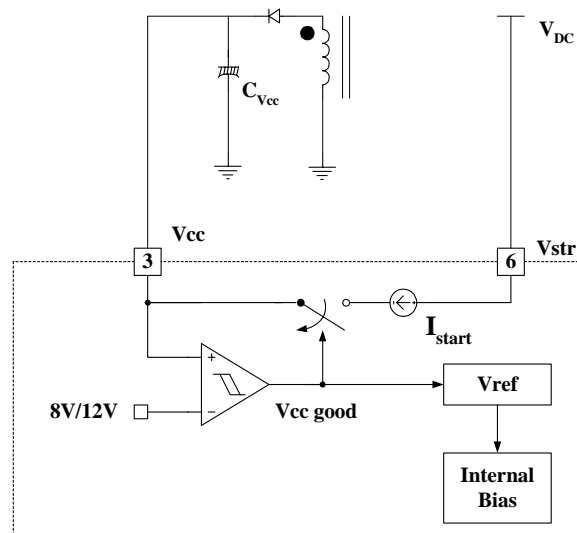

Figure 4. Internal startup circuit
1. Star-up: In previous generations of Fairchild Power Switches (FPS™), the Vcc pin had an external start-up to the DC input voltage line. In the newer switches, the startup resistor is replaced by an internal high voltage current source. At startup, an internal high voltage current source supplies the internal bias and charges the external capacitor (C_{Vcc}) that is connected to the Vcc pin as illustrated in Figure 4. When the Vcc pin reaches 12V, the FSDM1265RB begins switching and the internal high voltage current source is disabled. Then, the FSDM1265RB continues its normal switching operation and the power is supplied from the auxiliary transformer winding unless Vcc goes below the stop voltage of 8V.